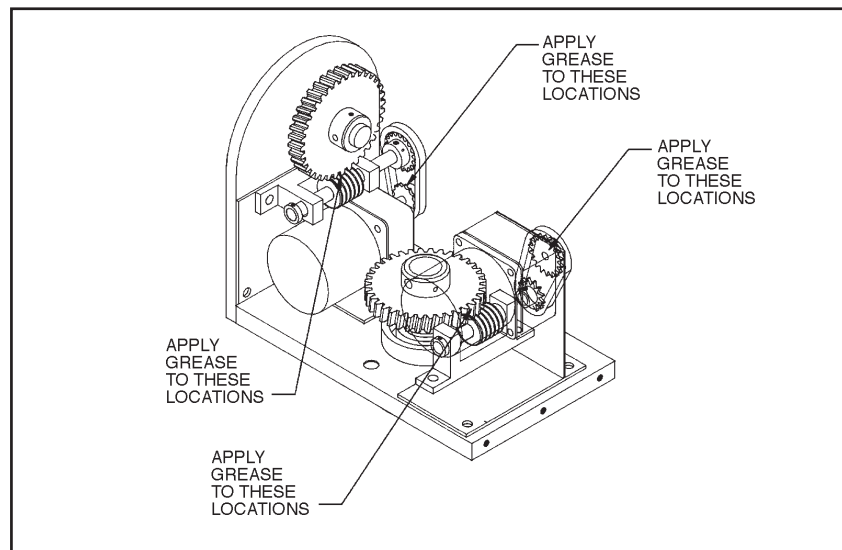

Figure 5. Servicing the Pan/Tilt
1. Liberally apply grease to the pan and tilt gears, chains, and sprockets (refer to Figure 5).